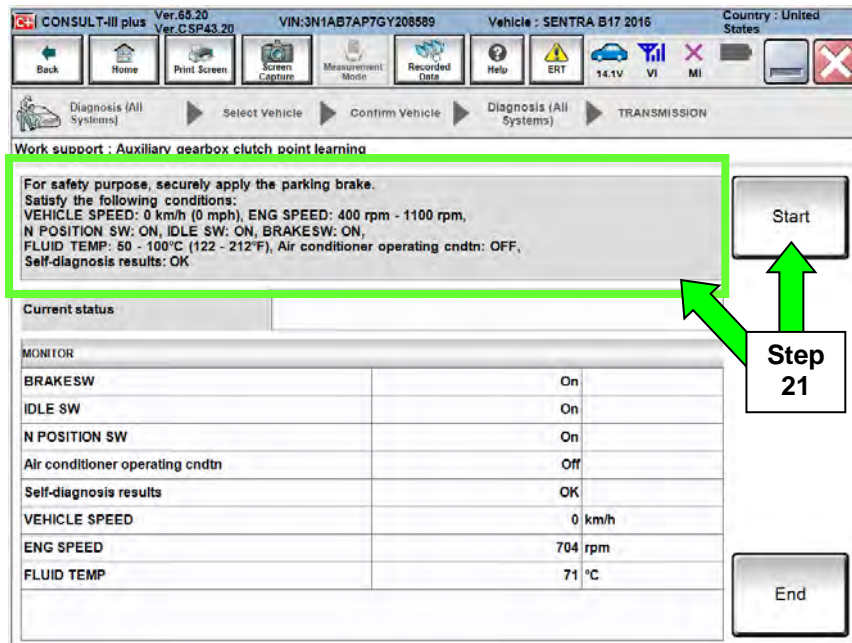

Figure 13Y
21. Follow the on screen instructions to meet all parameters displayed in Figure 13Y and then select **Start**.